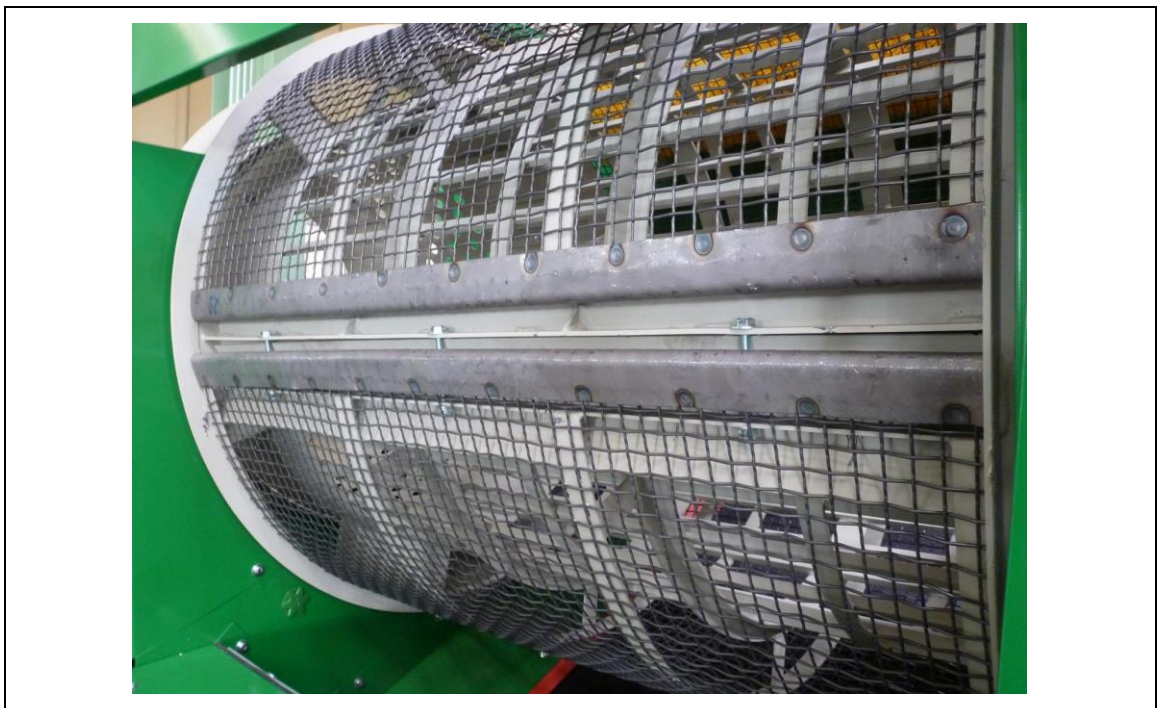

fig. 11-3: Clamping station of the wire screen pads
4. Put ends into clamping station with mounting lever and use the screws to tighten the wire screen pad. (see figure 11.3)